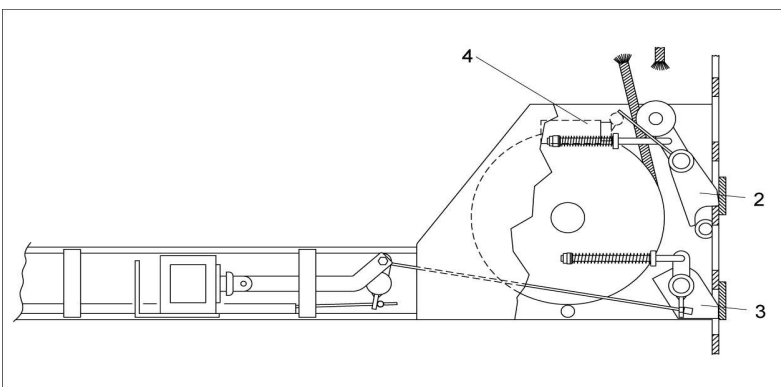

Fig. 26 Safety wedge and Limit switch
- Should the steel cables slacken or break, the safety wedges (3) will stop the movable part of the lift and the vehicle in its current position (fig.26) and a microswitch (Pos.4, fig.26) located on the steel cables inside the cross-piece will disconnect the power supply to the motor.